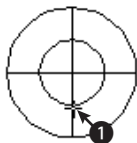
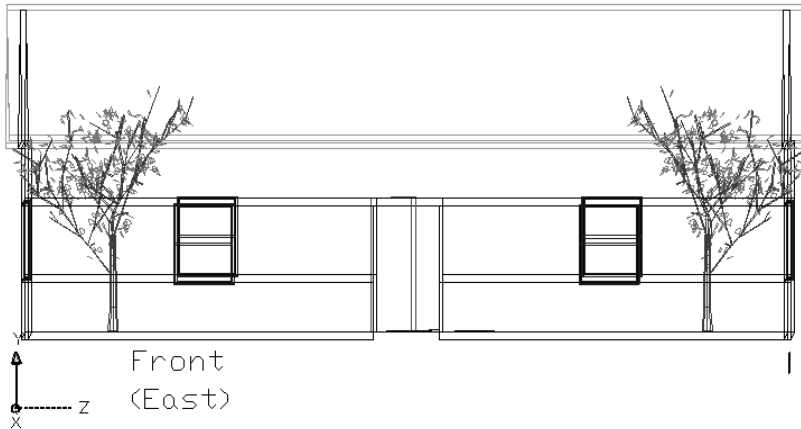

Figure 22-19: Picking a front viewpoint on the compass
Figure 22-20: The front viewpoint. Notice that it is not exact.
2. Choose View ⇨ 3D Views ⇨ Viewpoint. Pick the point shown at ❶ in Figure 22-19. You see the result in Figure 22-20.